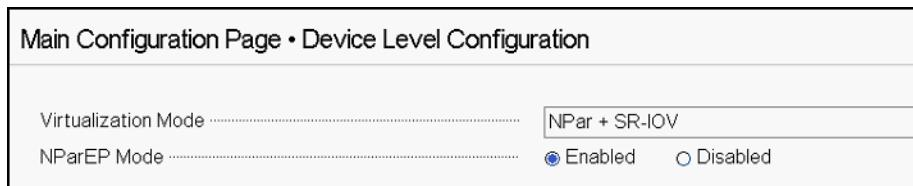

Figure 5-6. Device Level Configuration
2. On the **Device Level Configuration** page, select values for the device-level parameters, as shown in Figure 5-6.